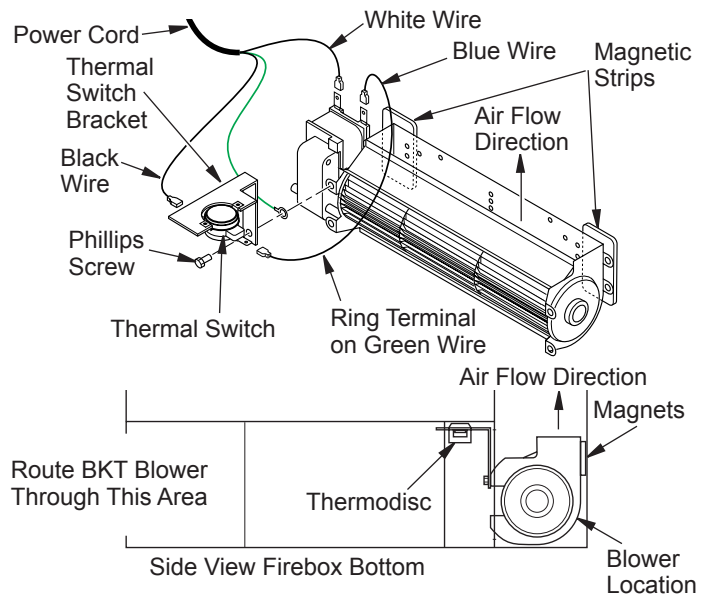

Figure 28 - Blower Model BKT
1. Place the green ground wire with ring terminal between the bottom hole on the thermal switch bracket and the top ear hole on the blower assembly. Insert the Phillips screw into all three pieces and tighten securely (see Figure 28).
- Place the blower against the lower rear wall of the firebox outer wrapper with the exhaust port directed upward and the thermodisc positioned up near the fireplace bottom. The thermodisc must be oriented near the fireplace bottom as shown in Figure 28, page 15, in order to sense temperature and properly operate. The blower will be held in position against the back wall by the magnets incorporated onto the blower housing (see Figure 28, page 15).